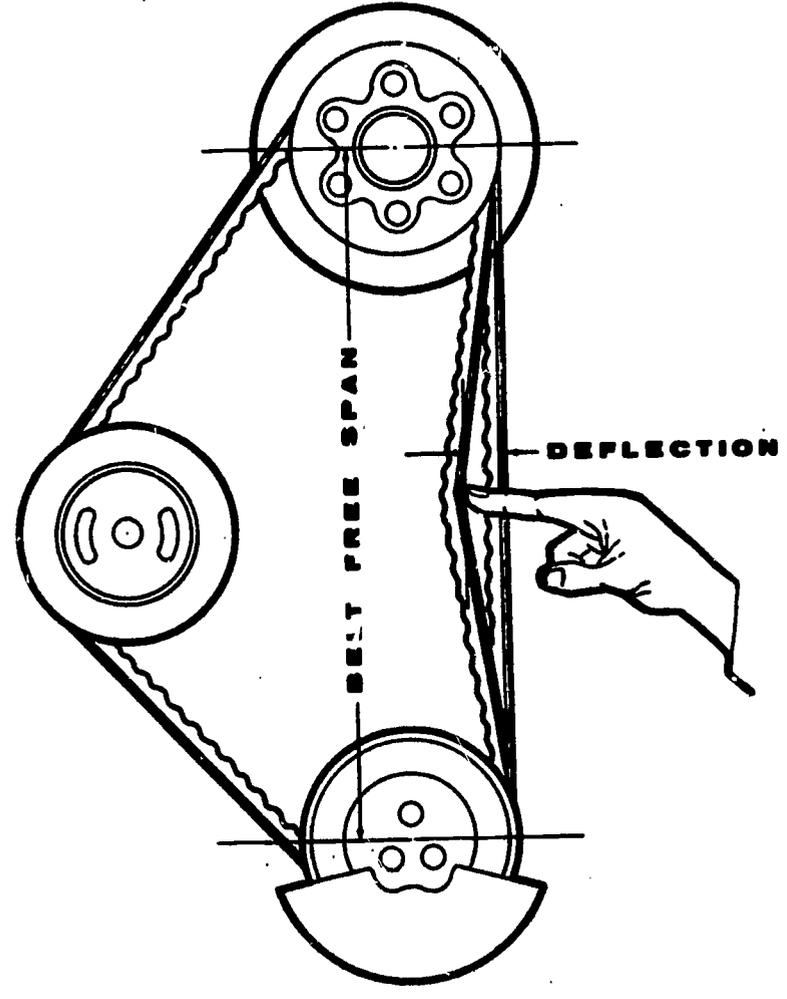
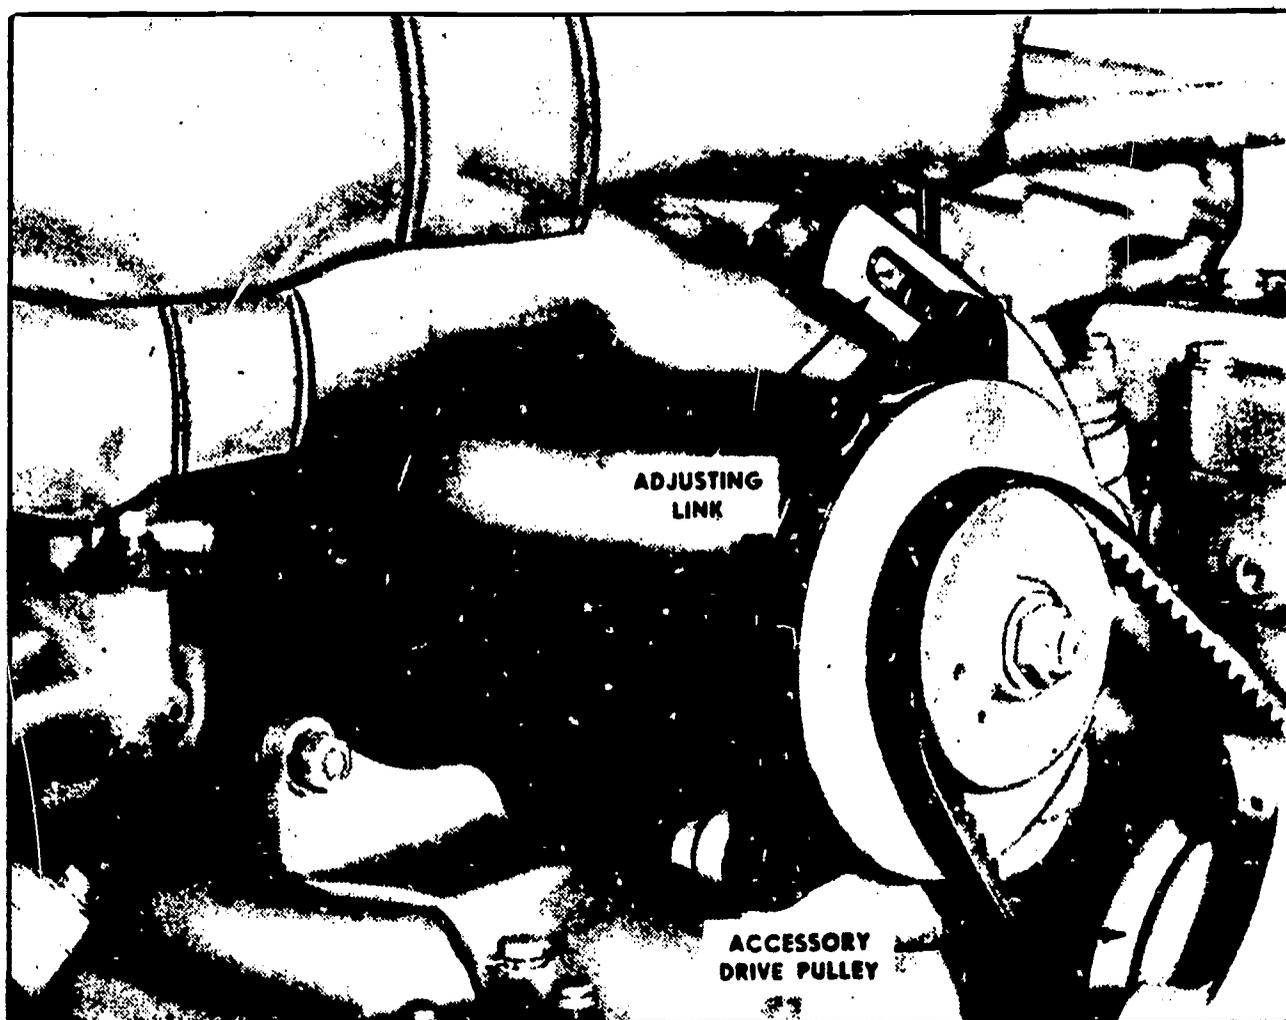

Fig. 1 Checking belt tension.
Fig. 2 Mounting generator.
5. Tighten the adjusting screw join nut and adjusting screw until the pressure of the index finger depresses the bell as shown in Figure 1.
4. Adjust generator for proper belt tension, see Figure 1. Figure 2 shows the proper installation for a generator. Be sure not to over tighten belts - this can cause crankshaft failure.